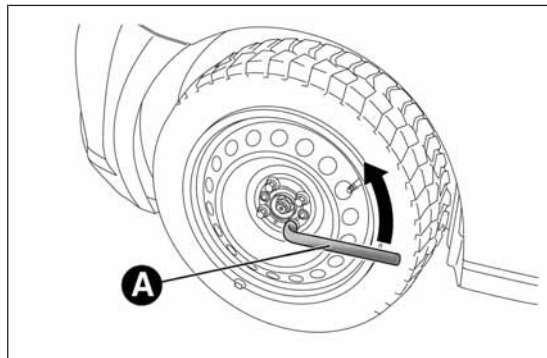
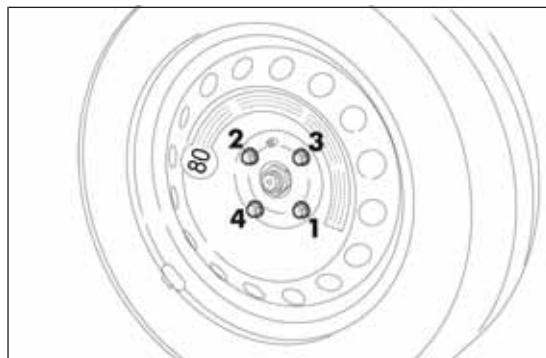

fig. 120
fig. 123
- ☐ take wrench A fig. 120 and loosen the fixing bolts by about one turn;
- ❑ take the wrench A fig. 120 and fully tighten the fixing bolts;
- ☐ use the wrench A fig. 120 provided to fully tighten the bolts in a criss-cross fashion as per the numerical sequence illustrated in fig. 123;
- ☐ tighten the retaining bolts using wrench A fig. 120;
- ☐ use wrench A fig. 120 to fully tighten the bolts, following the sequence illustrated in